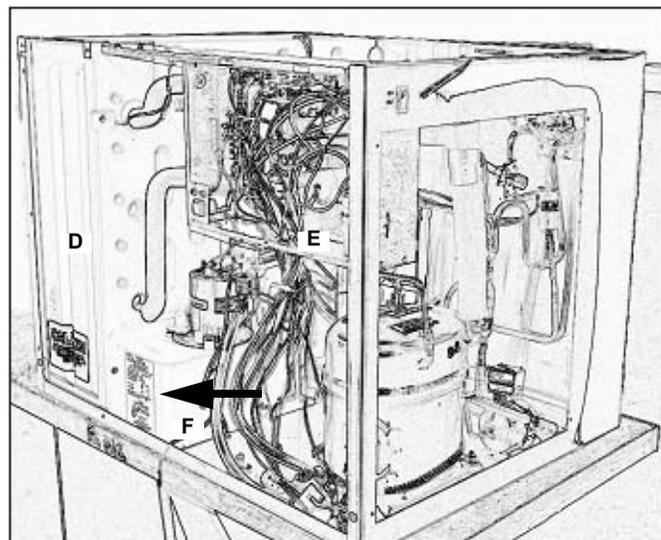

Figure 8.
4. Remove the evaporator splash panel (D) and control box cover (E) [not shown] (Figure 8).
The refrigerant type and charge are indicated on the serial plate, located on the water pan (F) (Figure 8). This charge amount does **NOT** include that which is normally present in a factory charged condenser or line set.